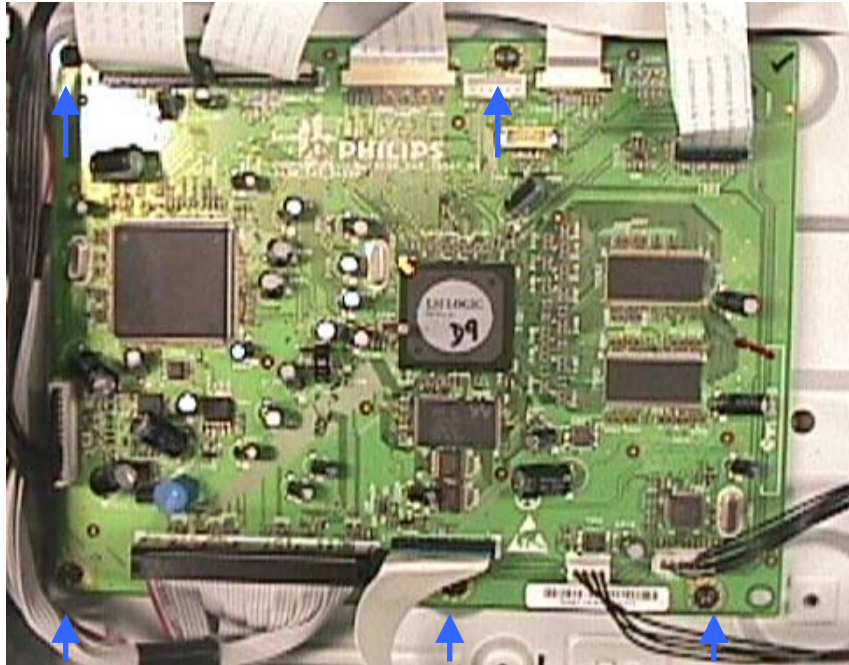

Figure 9 - Remove mounting screws for Digital Board
- 1) Remove 5 screws to loosen the Digital Board 1002 as shown in Figure 9.